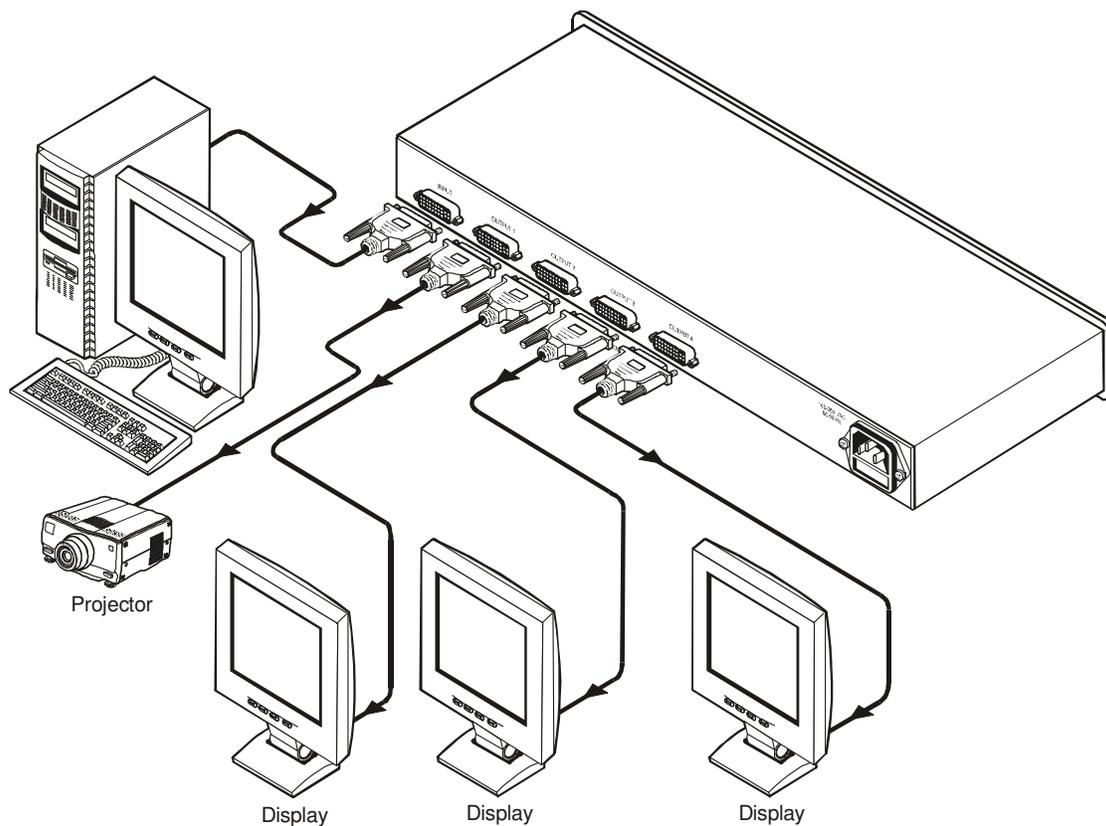

Figure 2: Connecting a VM-4HDACP 1:4 DVI Distributor
To connect the **VM-4HDACP** as illustrated in the example in Figure 2, do the following:
3. Connect the power cord to the mains electricity (not shown in Figure 2).